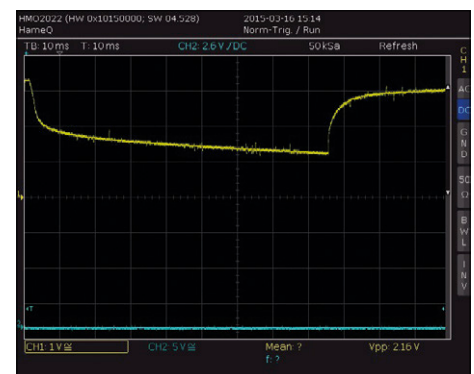

Figure 10. Example display of a discharge curve of a Li-ion rechargeable cell. The total duration of the displayed record is twelve minutes.
**Figure 10** shows the discharge curve of a (used) Li-ion rechargeable cell. Discharging begins at the left-hand side of the screen, and when the voltage falls below 3.3 V discharging is stopped. It is immediately clear how the voltage rises again as the cell recovers from the discharge. An oscilloscope with twelve horizontal divisions was used. The voltage tracker was set to one minute per division, giving a total record length of twelve minutes. The 'level' was set to 3 V and the vertical scaling was set to 1/4. With the oscilloscope vertical amplifier set to 1 V per division, this gives a plot with a vertical scale of 0.25 V per division.